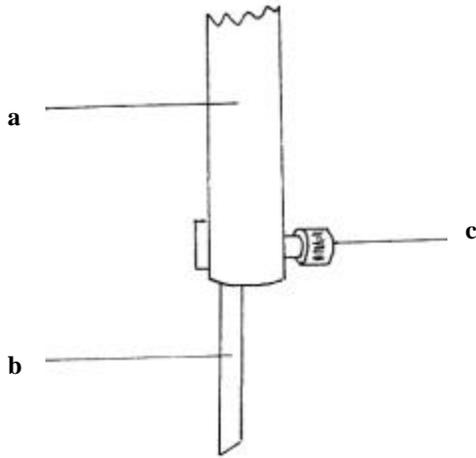

Fig. 11-2.■ The chuck, a) vertical spindle, b) surveying tool, c) tool securing thumb screw.
5. CHUCK, at the inferior end of the spindle, in which various surveying instruments may be secured (Fig. 11-2).